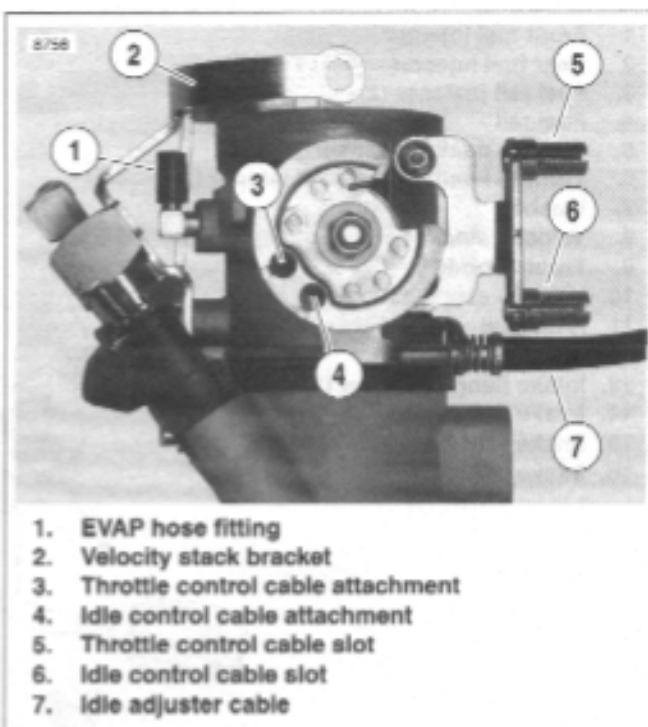

Figure 4-101. Throttle Cable Bracket (Typical)
3. See Figure 4-101. On California models, pull EVAP hose from fitting (1).